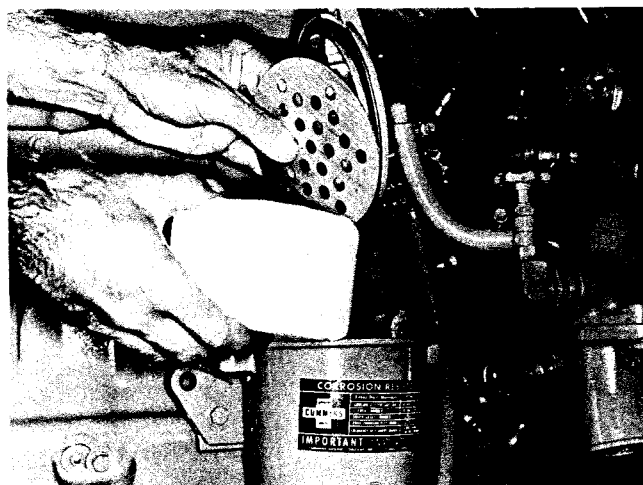

Fig. 2-25, (N11901). Changing corrosion resistor element - package type
6. Remove new element from transparent package; install element in housing. Fig. 2-25.